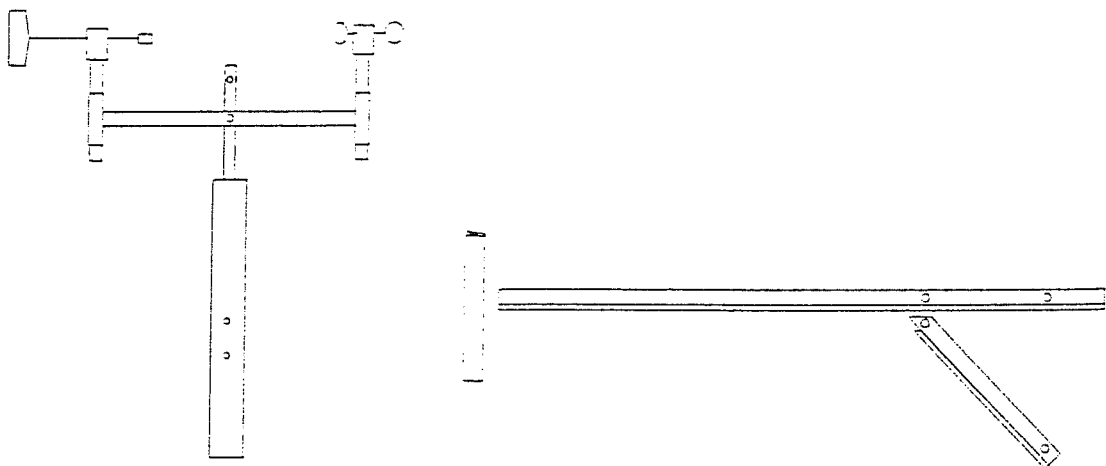

Figure 5-7
2. Use angle iron to fashion a support bracket that can be bolted to the legs of the tower. This assembly can be welded or bolted together, but should be made of galvanized metal. See Figure 5-7.